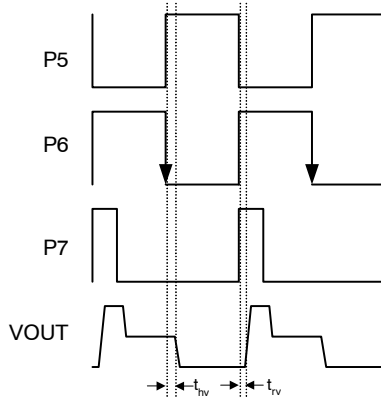
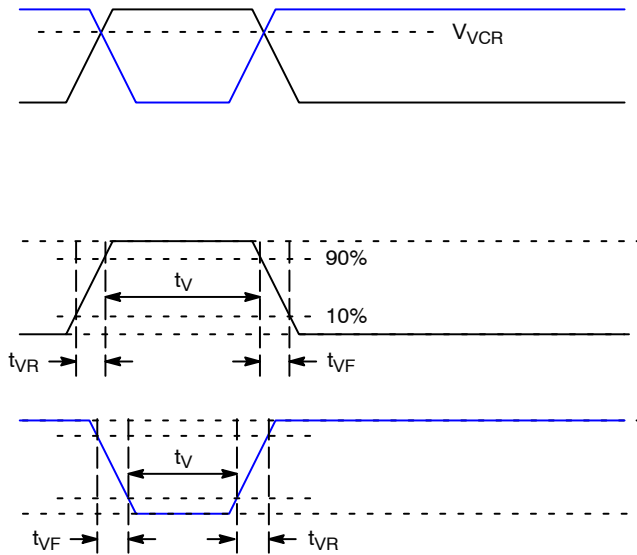

Figure 25. Pixel Timing Detail
Figure 27. VCCD Clock Rise Time, Fall Time and Edge Alignment
1. Refer to timing diagrams as shown in Figure 23, Figure 24, Figure 25, Figure 26 and Figure 27.
2. Refer to Figure 27: VCCD Clock Rise Time, Fall Time and Edge Alignment